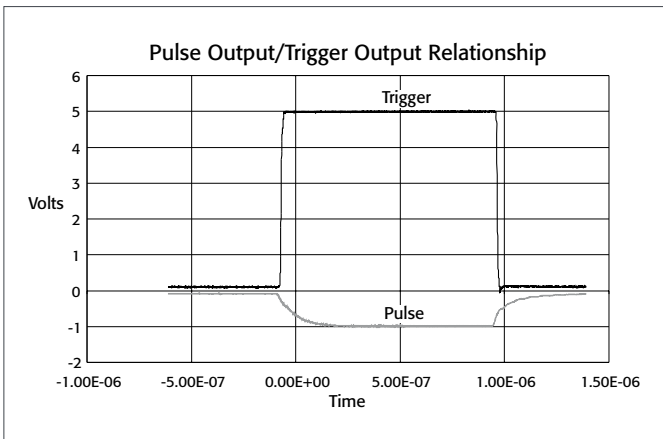

FIGURE 3
However, with the Model 2520, the limiting factor is not the test instrument, but the physics of the connections to the device. Keithley's optoelectronics applications engineers have addressed these issues by studying and documenting the optimum cable configuration to enhance measurement accuracy with extremely fast pulses. **Figure 3** illustrates the results of a typical pulse LIV sweep test with the Model 2520. In this test, a 100-point pulsed LIV sweep using a 1µs pulse width, at 1% duty cycle, was completed in just 110ms (including data transfer time), several orders of magnitude faster than existing, semi-custom test systems.
**FIGURE 3.** This plot illustrates the Model 2520's pulsed LIV sweep capability. The sweep was programmed from 0 to 100mA in 1mA steps. Pulse width was programmed at 1µs at 1% duty cycle, providing for a complete sweep in just 10ms (excluding data transfer time).
Pulse Trigger Out BNC: +5V, 50W output impedance, output trigger corresponding to current source pulse; pulse to trigger delay <100ns. See Figure 3.